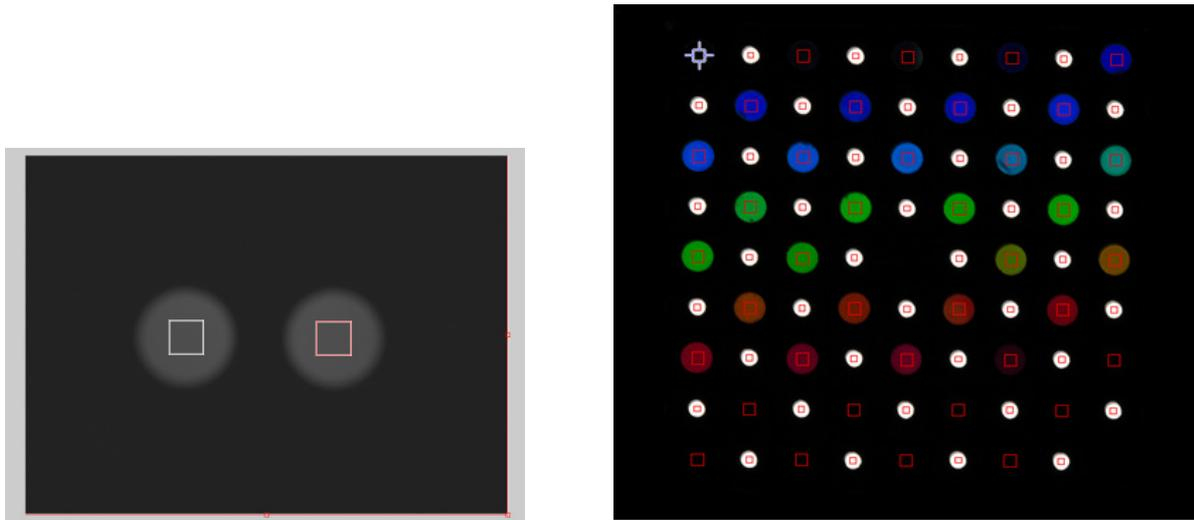
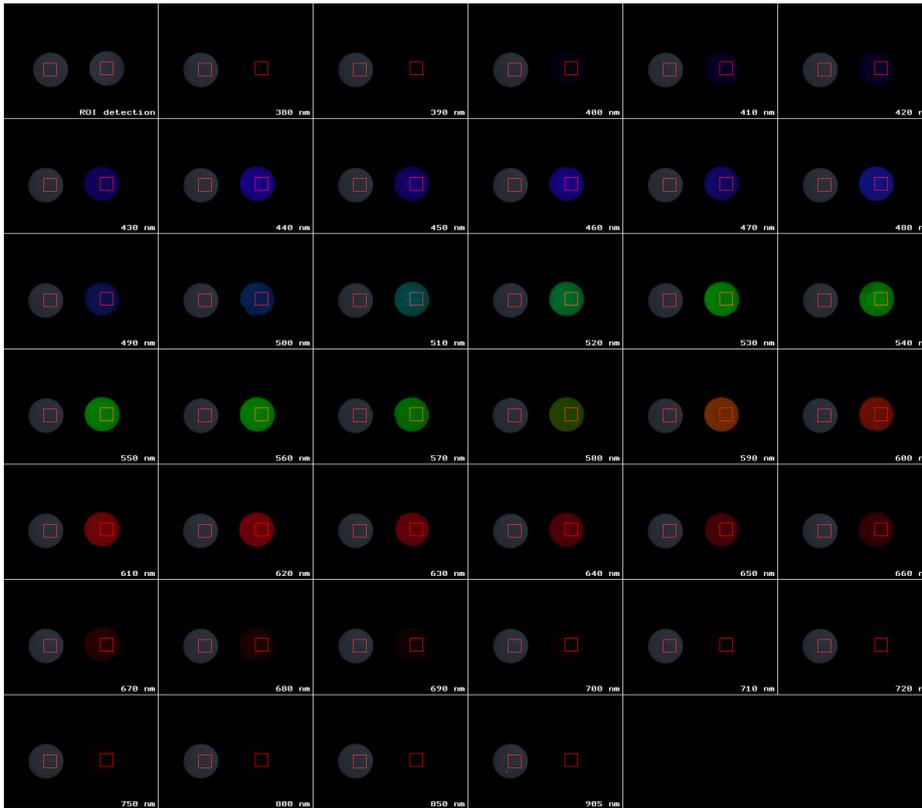

Figure 1
Figure 2
1. Add file(s) to processing list. Supported file types are: tiff, pgm, bmp, png, ppm and RAW files that 'dcrw' can convert. Depending on the selected calibration file (6) you can choose one or more images that have to contain the filter arrangement either of camSPECS express or camSPECS. If the "Batch mode" button is selected the program runs the test in batch processing. That means if there are multiple images of camSPECS express, all images are tested in series and if there are multiple image sets of camSPECS selected all sets are tested in series. If the "Batch mode" button is selected the automatic detection is moreover not interrupted by a confirm dialog.
5. Starts the processing. In both versions, camSPECS or camSPECS express, the filters in the images are detected automatically. After the detection process a confirm dialog is shown where the regions of interest (ROI) for each filter can be manually repositioned if necessary (figure 1). By double clicking on the background the processing starts. A tile image assembled from all images of camSPECS is saved to the same folder as the current selected source folder (figures 2 and 3). The result is displayed on the panel and saved to a text file in the same folder as the original image folder.
Format of the calibration file for camSPECS express: the rows contain values for the wavelength and the power of the color filters and the ND filters alternating from line to line. "1" stands for the ND filter. The corresponding filters on the panel are to be seen from the upper left side to the lower right side (see figure 1)
* Center filter arrangement, two subsequent neutral filters (see figure 1)